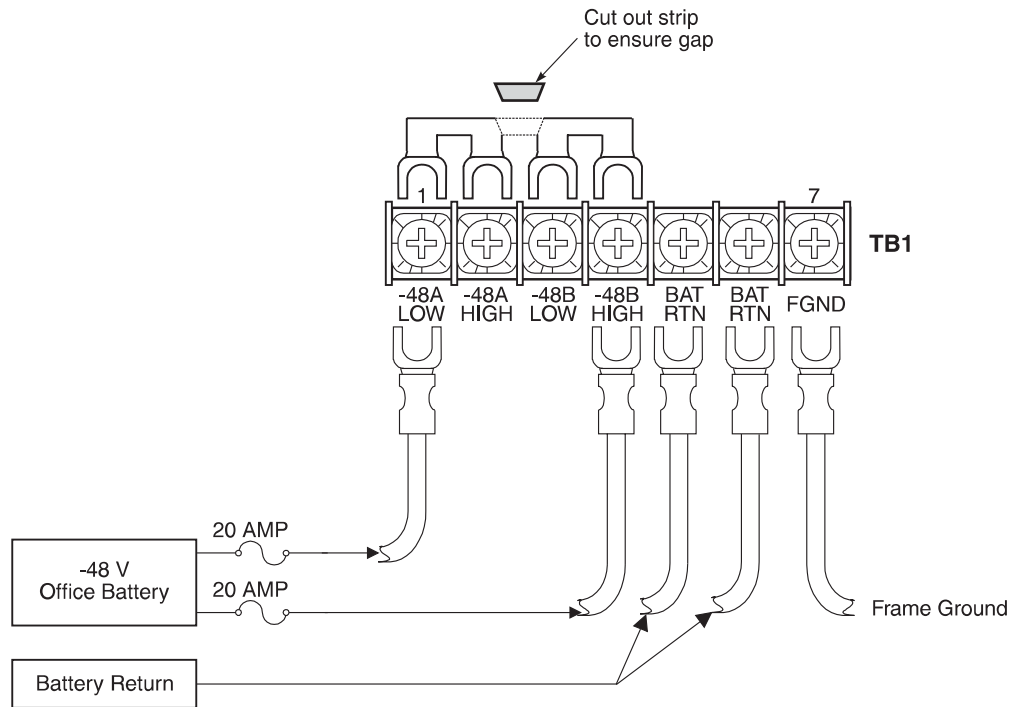

Figure 6 Redundant Shelf Power Wiring
A four-position jumper is in place on the TB1 block (Figure 6). This jumper shorts all of the 48 VDC inputs together to prevent an alarm situation when only one input feed wire is connected. To provide redundant-shelf powering:
A four-position jumper is in place on the TB1 block (refer to Figure 6). This jumper shorts all of the 48 VDC inputs together to prevent an alarm situation when only one input feed wire is connected. To provide split-shelf powering:
- 2 Remove the four-position jumper (refer to Figure 6) and discard.